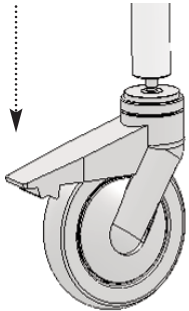

Figure 24
**B Caster Wheels:** When transferring into the chair, out of the chair and sliding the user from the roll-in section into the tub section, all four caster wheels should be securely locked in place. Failure to do so could cause the chair to become unstable (Refer to Figure 24).